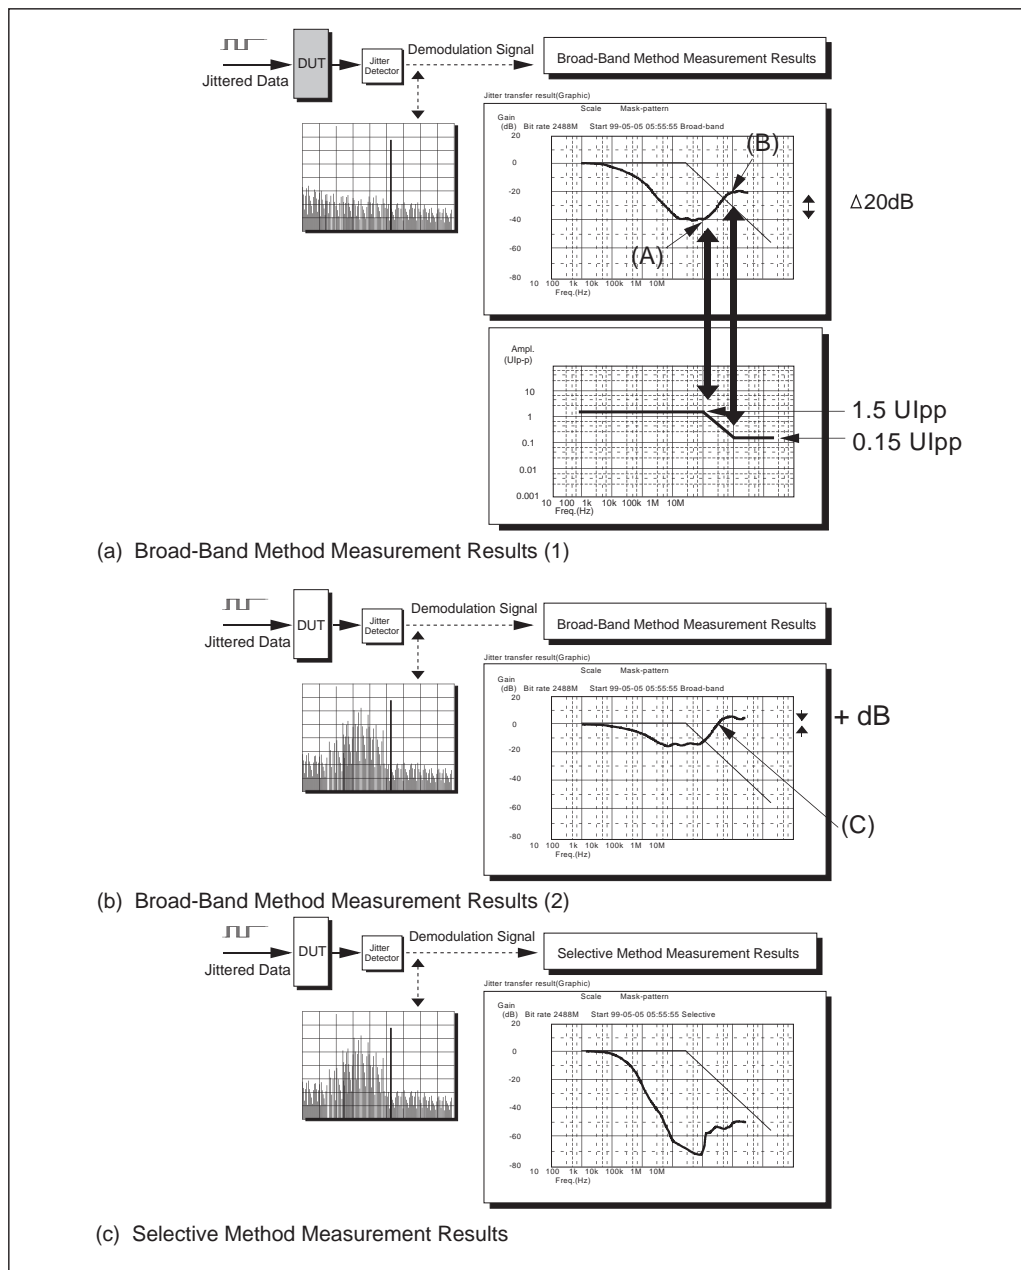

Figure 2-10 Jitter Transfer Results
Figure 2-10 shows the above two method measurement results using the ME3620A SDH/SONET analyzer. Figure 2-10 (a) shows the broad-band method measurement results, where the jitter gain seems to be increasing between (A) and (B). Because the jitter gain is found using the 20 LOG ( $J_{out}/J_{in}$ ) as shown in formula (1), while the  $J_{out}$  is keeping a constant value due to the residual jitter, the  $J_{in}$  is decreasing from 1.5 Ulpp (A) to 0.15 Ulpp (B), the calculated Jitter gain at the 0.15 Ulpp measuring point seems 20 dB degraded than that of the 1.5 Ulpp point.
Next Figure 2-10 (b) shows the measurement results when more unnecessary jitter components (appropriate to 0.3 UIpp) are included in the measured equipment's output signal. Of note here is that the jitter gain at a jitter frequency higher than that at point (C) is over 0 dB (This is an extreme example but was obtained from an actual evaluation).
Figure 2-10 (c) shows the measurement results using the selective method for the same measurement as in (b). Although an unnecessary jitter component is included in the measured equipment's output, the effect of the unnecessary jitter component does not show up in the measurement results. From this fact, it is important to refer to the broad-band measurement results for the evaluation of jitter accumulation which is the purpose of jitter transfer measurement.